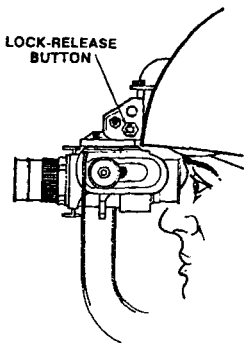

Figure 2-12. Lock-Release Button.
- (1) Make sure the power switch is turned OFF.
- (2) Neck cord is placed around the neck before helmet is placed on head.
- (3) Hold the binocular with both hands at approximately a 30-degree angle so the eyepieces face you and slide the spring-loaded ball bearings of the viewer mount or offset mount assembly into the channels of the mounts until they lock in place.
- (4) Press the lock-release button (fig. 2-12) and rotate the binocular to the up and locked position. Ensure it locks in place.
- (5) Press the lock-release button and ensure it locks down properly. In the down position, the goggles can be moved up without using the lock release in an emergency.